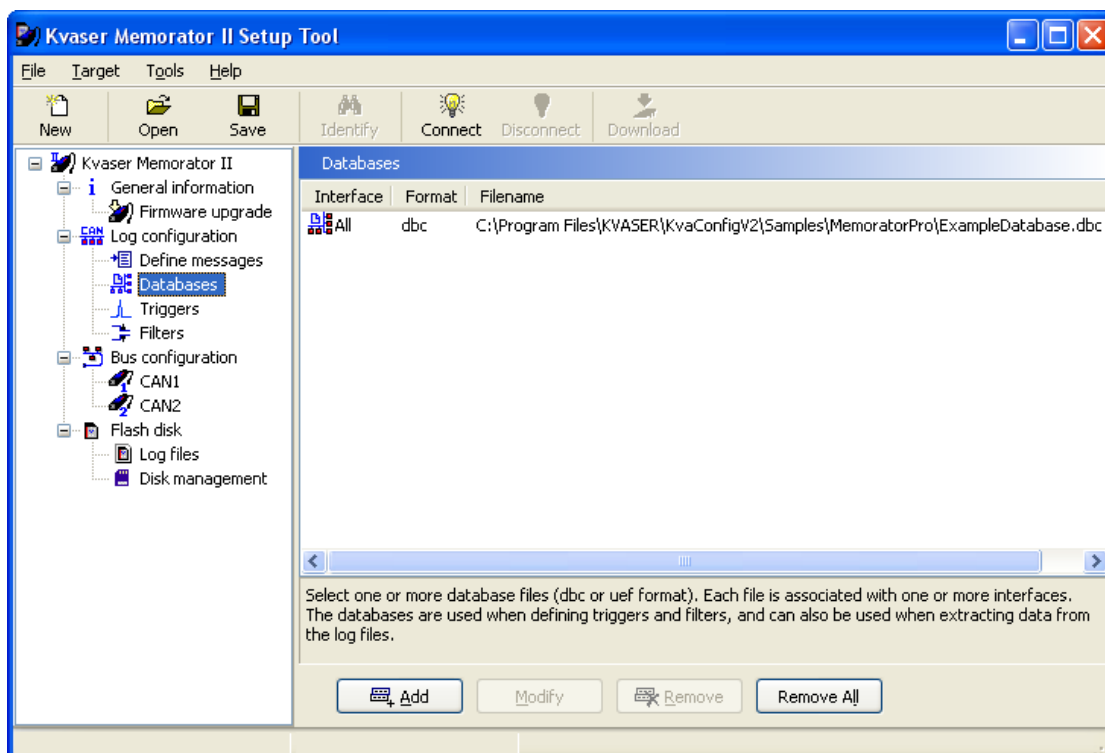

Figure 3 List of Databases.
- You should now be able to see the added database file in the list of database files as shown in Figure 3 below.